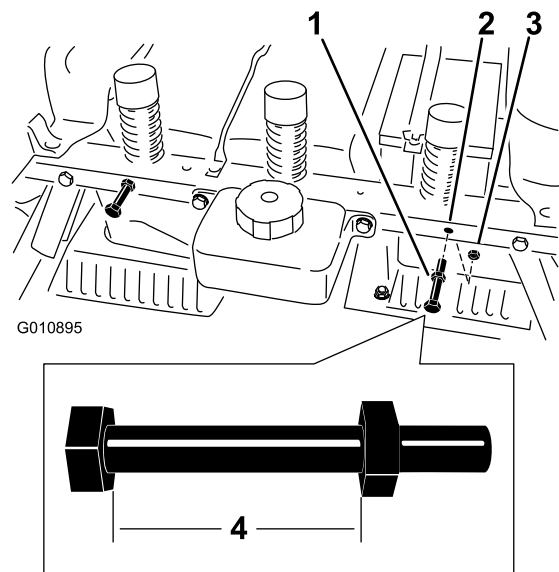

Figure 2
4. Locate the two bolts (1/4 x 2 inch) and four jam nuts (1/4 inch) in loose parts. Assemble a jam nut to each bolt as shown in Figure 2